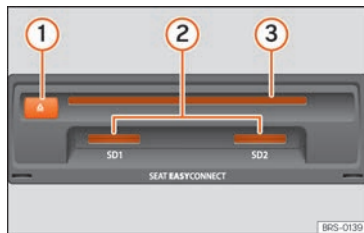

Fig. 198 Slots for data storage devices in the glove compartment.
- Push the CD into the slot » **Fig. 198 ③** to the point where it is drawn in automatically.
Insert the compatible memory card, bevelled edge first and with the label face up (contacts face down), into slot » **Fig. 198 ②** or » **Fig. 173 ⑨**, until properly inserted.